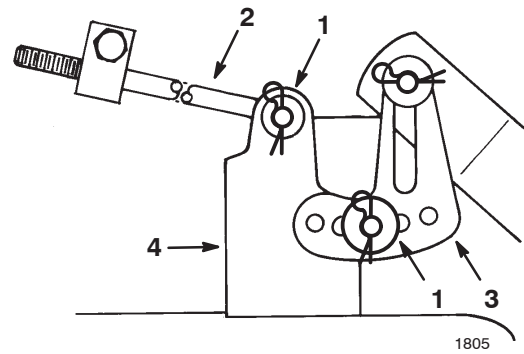

Figure 40
- Remove the hairpin cotter and washer from the end of the long rod (Fig. 40). Slide the rod out of the mower mount.
- Remove the hairpin cotter and washer at the mower leveling bracket (Fig. 40). Slide the bracket off of the mounting pin. Install the washer and hairpin cotter for storage.